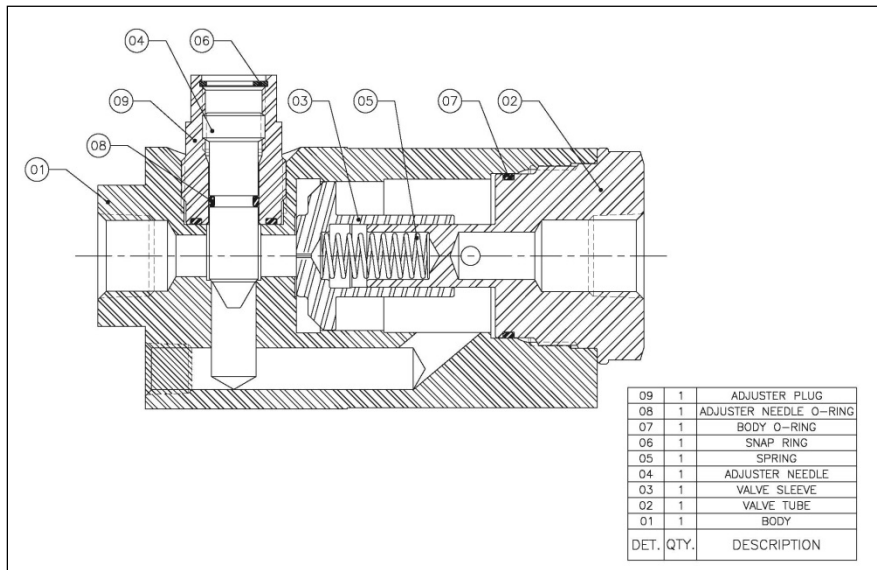

Figure 2
3. Unscrew valve tube from the body. (See figure 2)